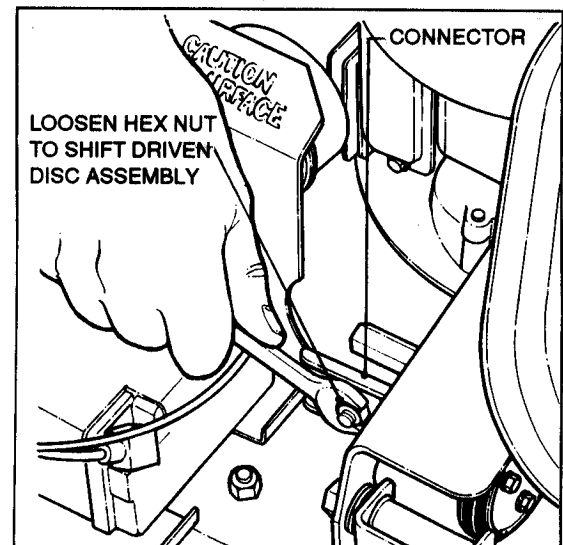

FIGURE 2.13
- To re-adjust, loosen the connector hex nut - connector is slotted for driven disc assembly movement. See Figure 2.13.